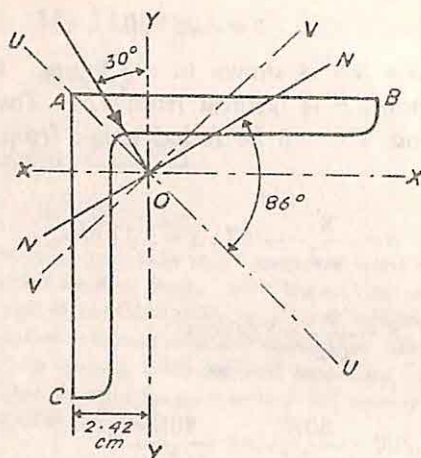

Fig. 66
12) A cantilever consists of an  $80 \text{ mm} \times 80 \text{ mm} \times 12 \text{ mm}$  angle with the top face  $AB$  horizontal as shown in Fig. 66. It carries a load of  $200 \text{ kg}$  at  $1 \text{ m}$  from the fixed end, the line of action of the load passing through the centroid of the section and inclined at  $30^\circ$  to the vertical. Determine the stresses at the corners  $A$ ,  $B$  and  $C$  at the fixed end and also the position of the neutral axis.